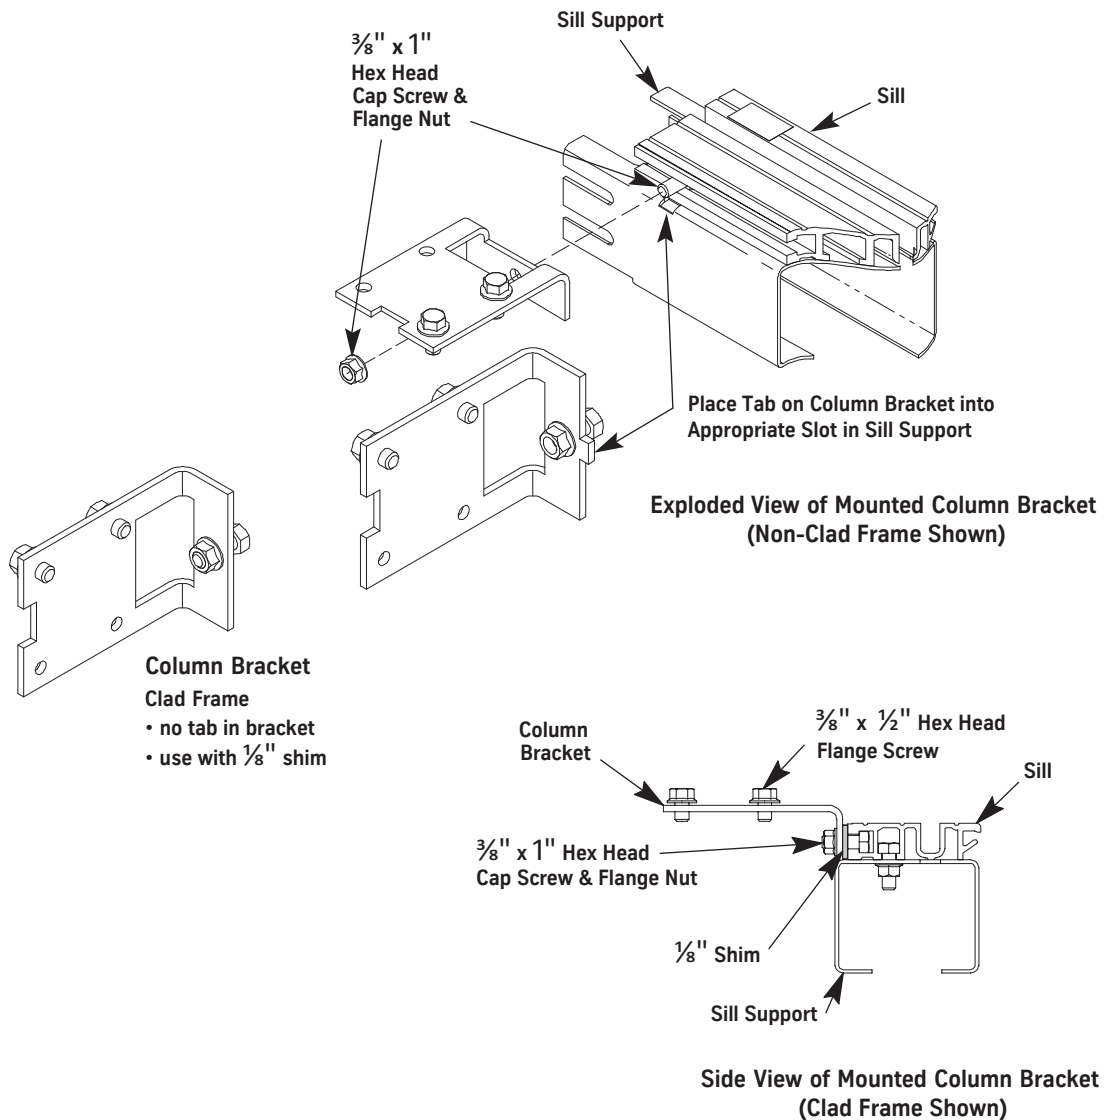

Figure 4 - Column Bracket Installation for Standard Sill
3. Remove the hex head cap screws from the column mounting brackets, and slip them into the slot on the back side of the sill. See Figure 4.